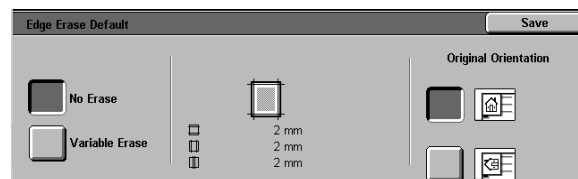

Figure 28: No Erase option on the Edge Erase screen
- 2 Touch the **No Erase** icon, as illustrated in Figure 28.